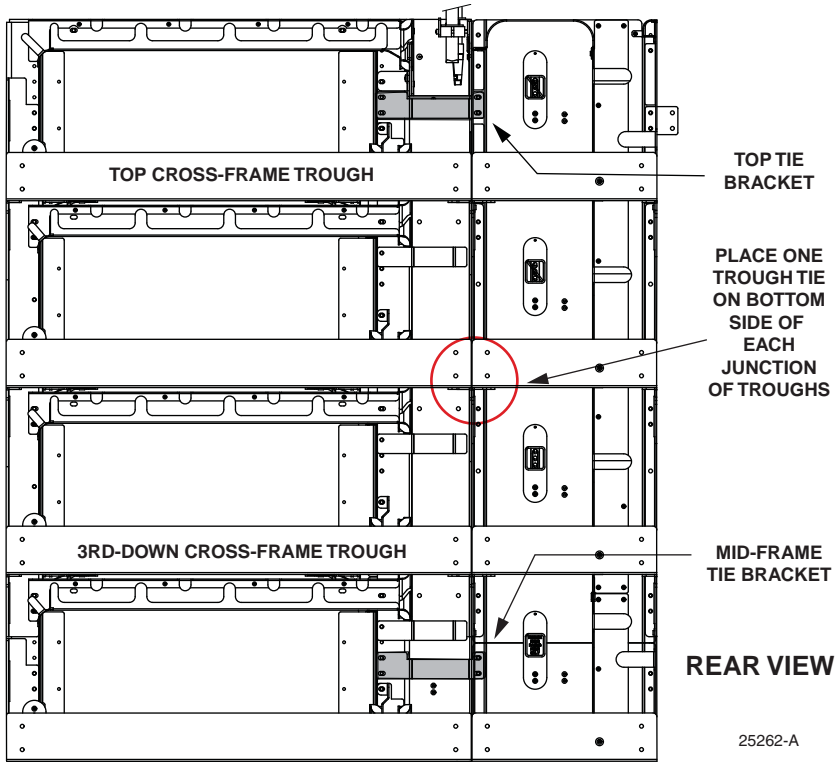
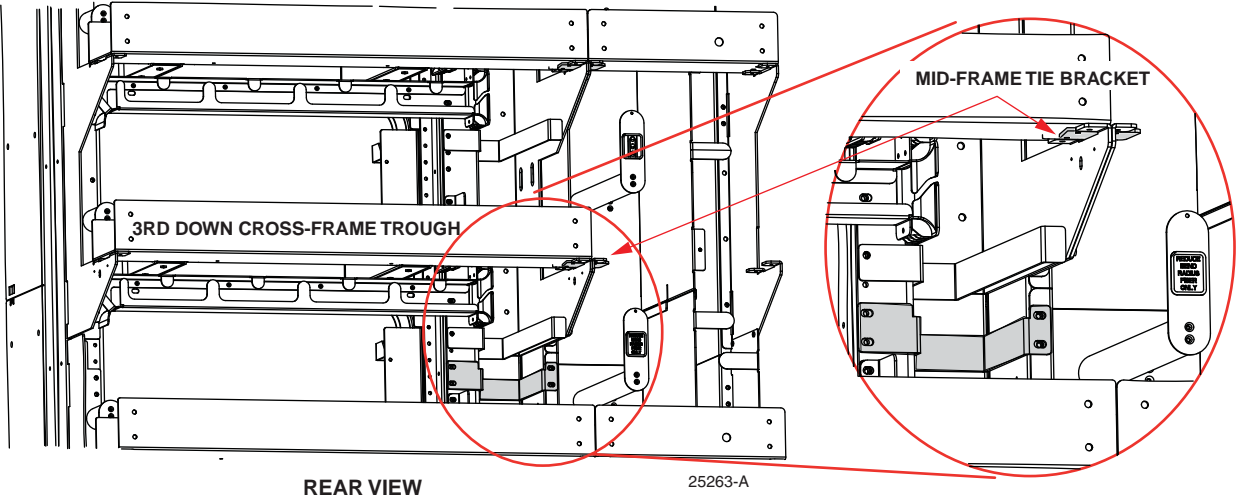

Figure 19. Rear View of Bracket Locations
Figure 20. Rear View With Frame Tilted to Show Brackets Under Trough
► **Note:** Refer also to the detailed views in Figure 19 and Figure 20.